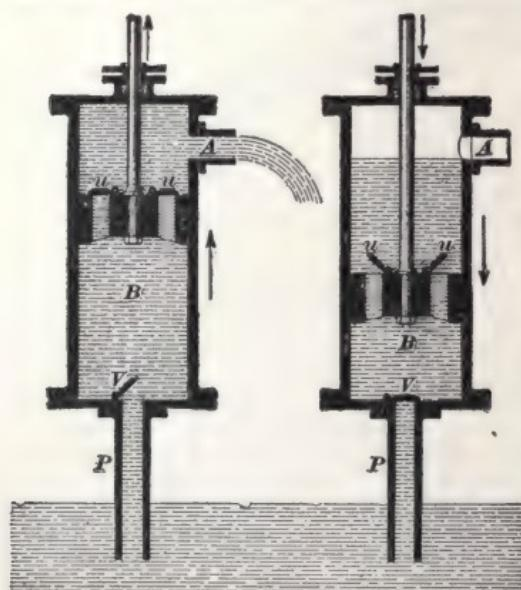
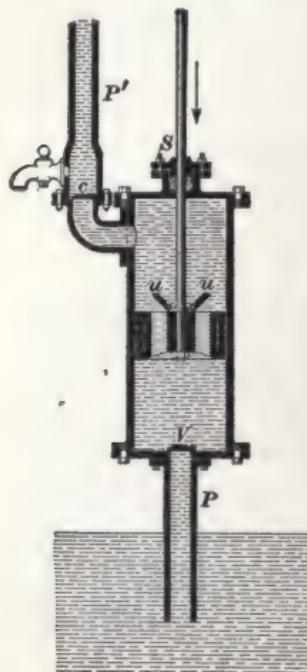

FIG. 25.
FIG. 26.
**70. The Suction Pump.**—A section of an ordinary suction pump is shown in diagrammatic form in Fig. 25.
**72. The Lifting Pump.**—In some cases it is desired to raise water higher than it can be forced by the pressure of the atmosphere into the chamber of a simple suction pump, such as is shown in Fig. 25. To accomplish this the pump chamber with its bucket and valves are set at a distance above the supply not exceeding that to which the air will successfully force the water. A closed pipe  $P'$ , Fig. 26,
While it is customary to consider lifting pumps and suction pumps as two different types of pumps, there is in reality no difference in their operation, as a careful study of Figs. 25 and 26 will show. The only difference is that the water is discharged by a suction pump *at the level of the*